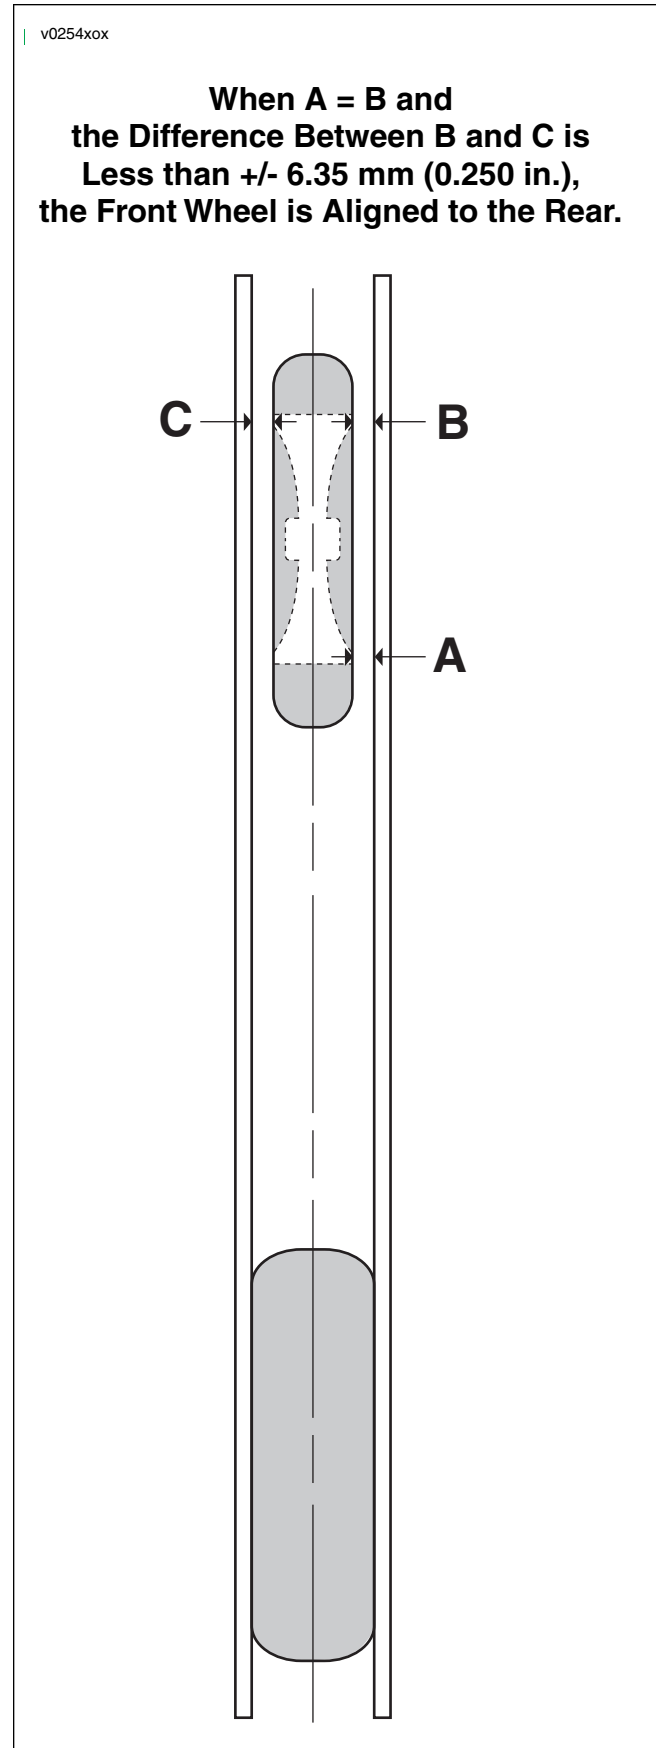

Figure 2-98. Wheel Alignment
5. See Figure 2-98. Straighten the front forks. From the front wheel rim, measure to the bar on one side of the motorcycle at the rear of the rim (A) and at the front of the rim (B) (two points). Straighten the front forks until the two measurements are equal (A = B).
7. See Figure 2-98. On the other side of the motorcycle, measure from the alignment bar to the front wheel rim (C) and compare measurement to that of the opposite side (B - C).
- a. See Figure 2-98. To straighten the front wheel, measure from the front wheel rim to the bar on one side at two points (A, B) along the wheel rim. Straighten the front wheel until the measurements are the same ( $A = B$ ).
- c. On the other side, measure the from the rim to the bar (C) and compare (B - C) to the measurement from the opposite side. The measurements must be within  $\pm 6.35$  mm (0.250 in.).